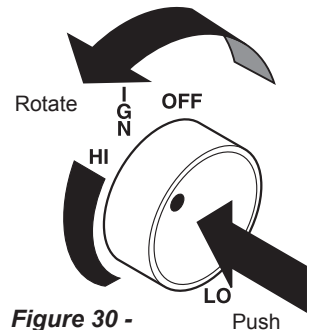

Figure 30 -
10. Push in control knob and turn counterclockwise to the HIGH setting. At this location the control knob will pop out when positioned correctly. The knob can now be positioned at any position between HIGH and LOW. Figures 30 and 31